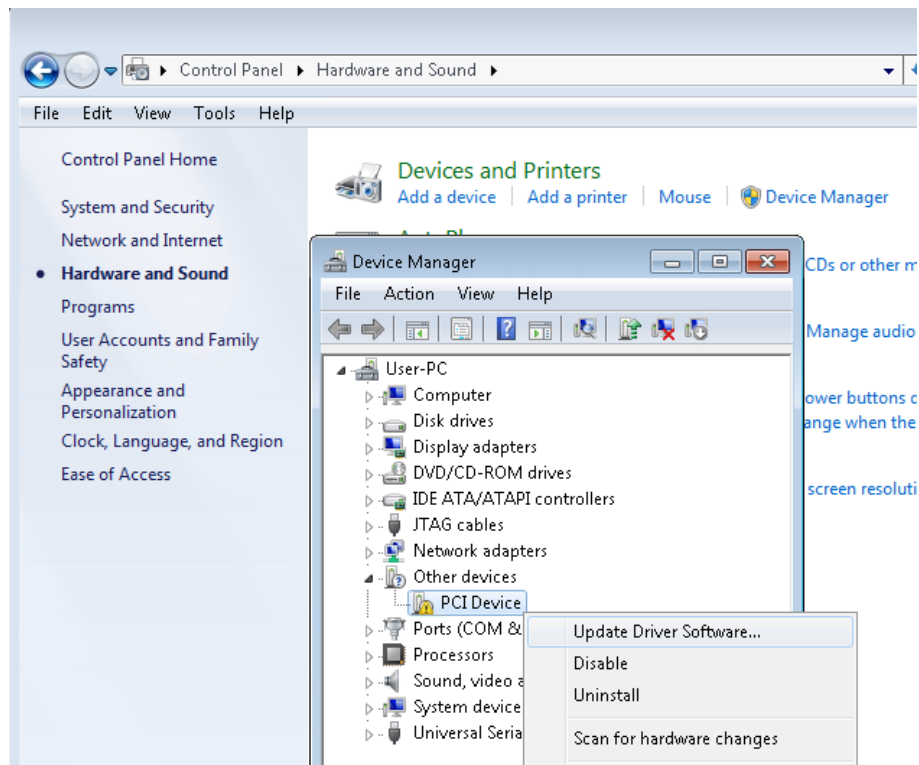

Figure 1-3 Screenshot of launching Update Driver Software... dialog
5. Click Control Panel menu from Windows Start menu. Click Hardware and Sound item before clicking the Device Manager to launch the Device Manager dialog. There will be a PCI Device item in the dialog, as shown in **Figure 1-3**. Move the mouse cursor to the PCI Device item and right click it to select the Update Driver Software... item.